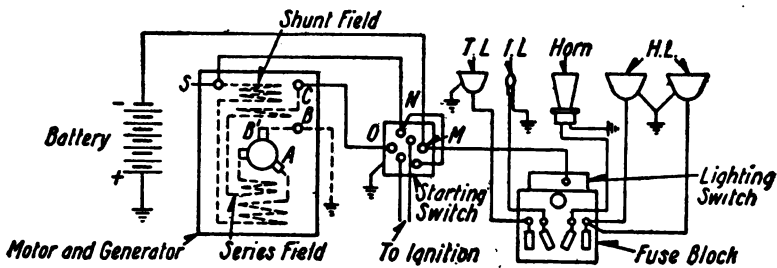

Fig. 359. Wiring Diagram for Westinghouse Single-Unit System on Hupmobile
**Wiring Diagram.** The connections of the Hupp installation are shown in Fig. 359.